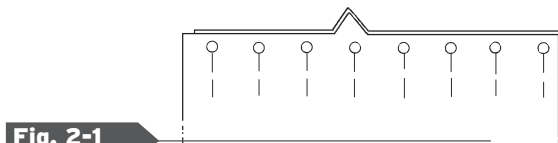

Fig. 2-1
1. Put right sides of the fabric together. Match notches, cut edges, and both ends of the fabric. Place pins at right angles to the seam line at the ends and notches. Pin the rest of the seam, placing pins 2 to 3 inches (5 to 7.5 cm) apart. (Fig. 2-1)